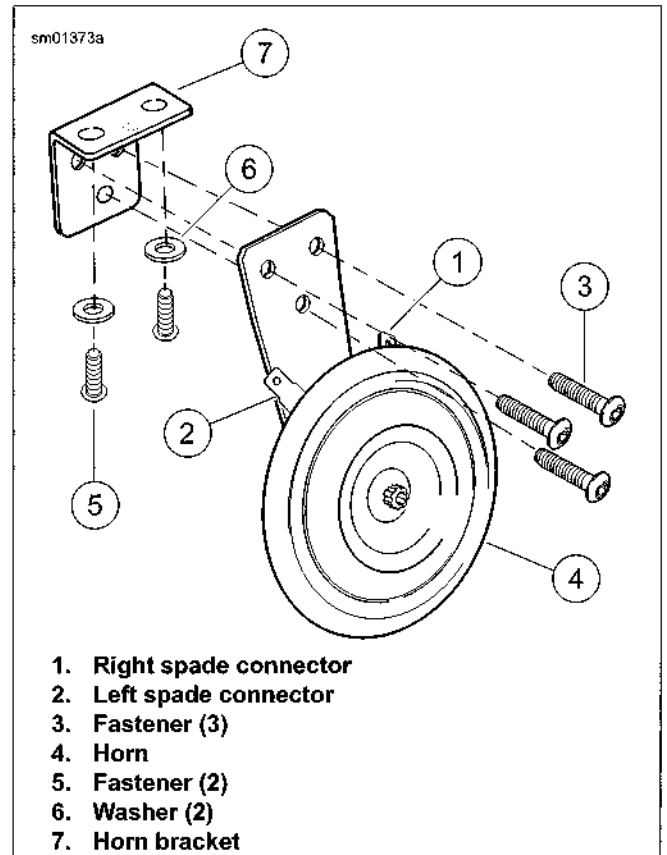

Figure 6-109. Front Mount Horn: XL 883L/N/R, XL 1200X
1. See Figure 6-109. Remove terminals from the right (1) and left (2) spade connectors.
2. Remove fasteners (3) from horn bracket.
3. Remove horn (4).